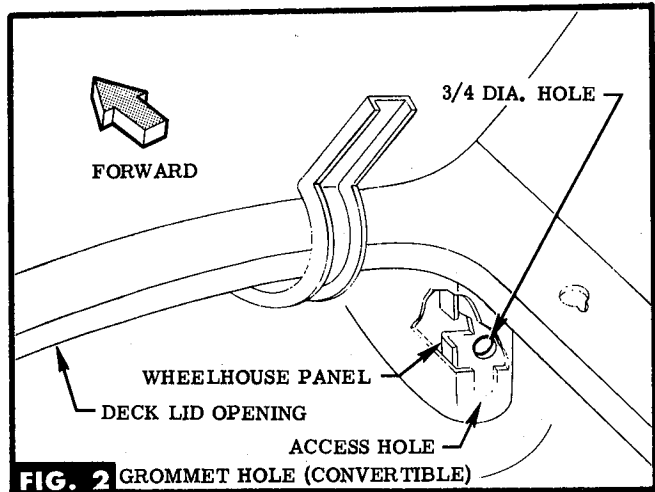

FIG. 2 GROMMET HOLE (CONVERTIBLE)
STEP 2 (CONVERTIBLE) REMOVE SPARE TIRE FROM ENGINE COMPARTMENT. REMOVE PLUG FROM ACCESS HOLE. CENTERPUNCH & DRILL HOLE THRU WHEELHOUSE PANEL. SEE FIG. 2.